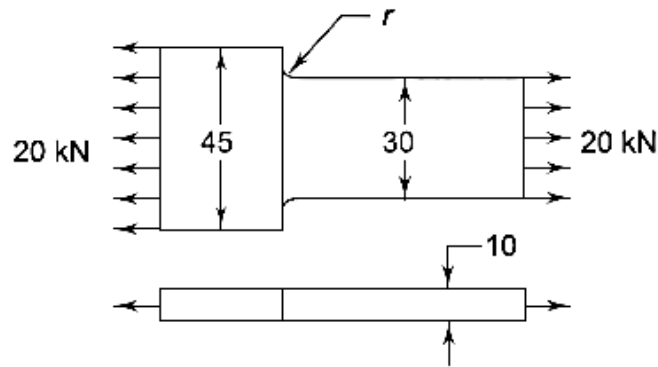

Figure 6.4
4. A plate, 10 mm thick, subjected to a tensile load of 20 kN is shown in Fig. 6.4. The plate is made of cast iron ( $S_{ut} = 350 \text{ N/mm}^2$ ) and the factor of safety is 2.5. Determine the fillet radius.